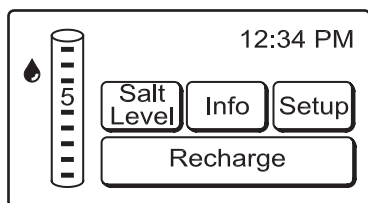

FIG. 22
1. Press the SETUP button on the softener status screen (See Figure 22).